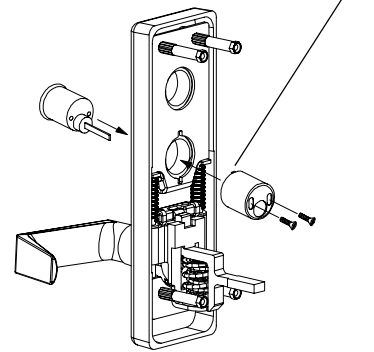

Figure 1
3. Prepare trim: If necessary, change handing (see other side). For L function trim only, install cylinder (Figure 1).